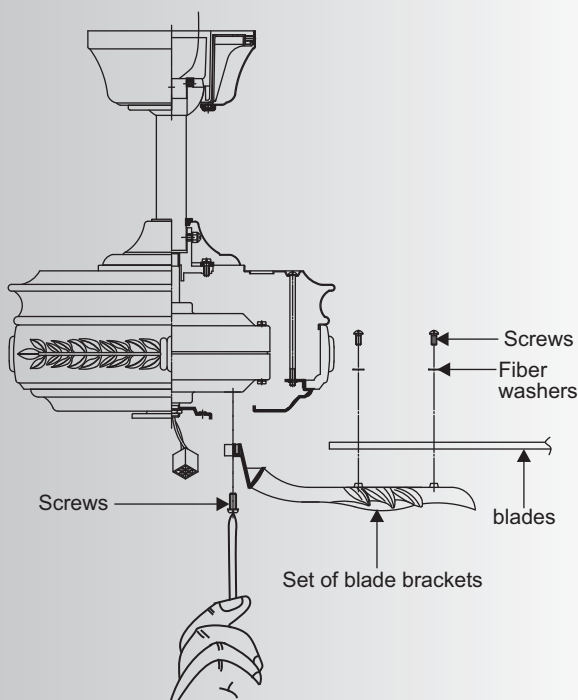

Fig. 14
Step 1. Attach a blade to a blade bracket using the screws and fiber washers provided. (Fig. 14)
Step 2. Attach each blade assembly to the motor using the "Pre-Installed" mounting screws in the blade bracket. (Fig. 14)